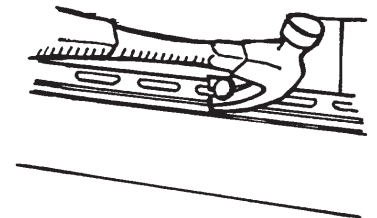

Figure 72.
- Gently bend out the upper panel. Take the nails out of the damaged panel and remove it (Fig. 72).